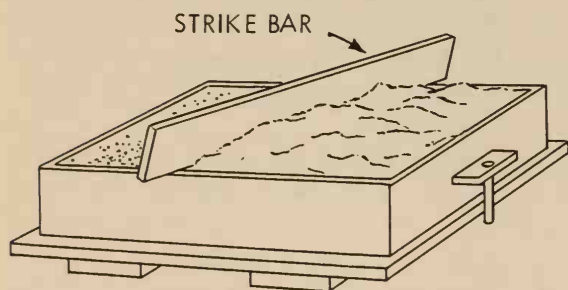

Fig. 8-7. Striking off excess sand with the strike bar.
6. Strike off the excess sand on the top of the mold with a strike bar, Fig. 8-7. Sprinkle a handful of sand over the mold and lay a bottom board on